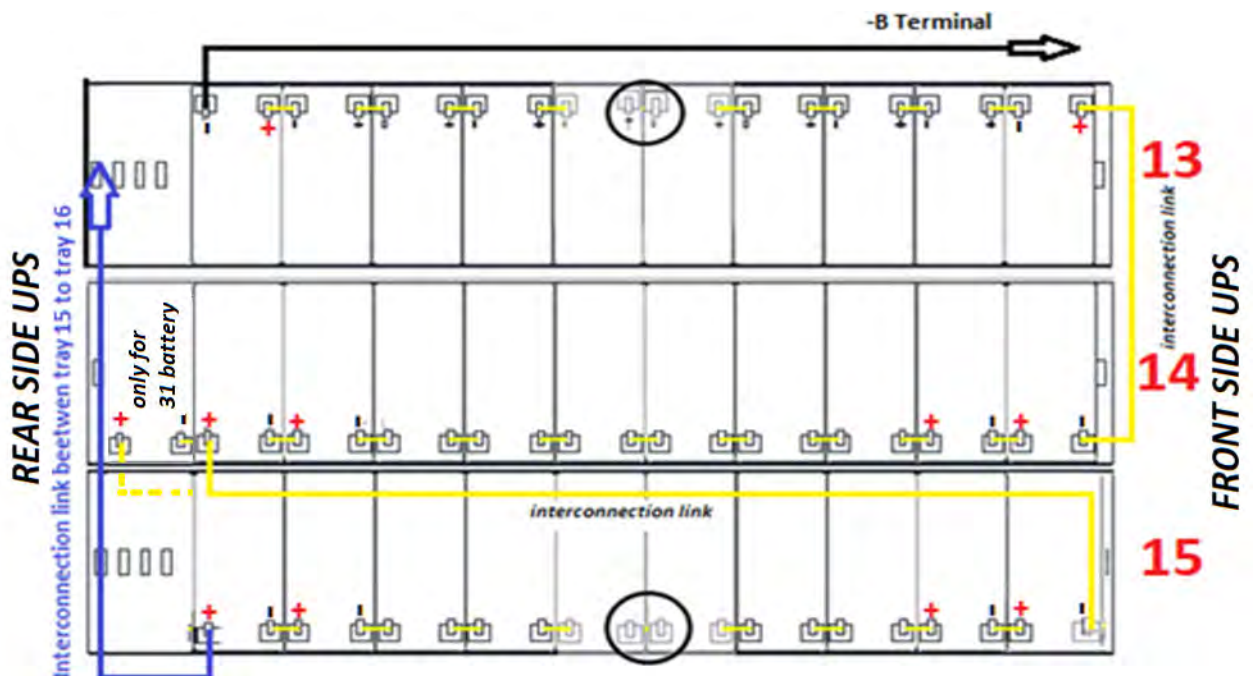

Figure 21 - View from above Level No.5 with battery connections
14) Wire the level as indicated in Figure 21. Leave the circled jumpers disconnected.